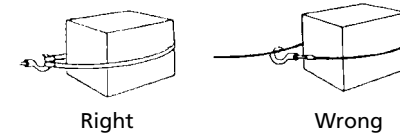

Figure 5
- Never hook wire rope back onto itself. Hooking wire rope onto itself can damage rope. Use a nylon sling (See Figure 5). When using a sling, make sure that sling is properly seated in saddle of hook.